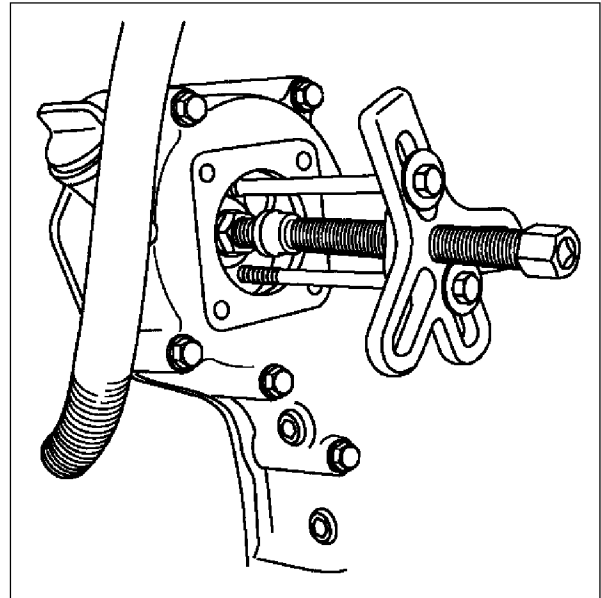

Figure 8
- (20) Remove the pump drive gear and hub as an assembly using an appropriate two-bolt gear puller (Figure 8).